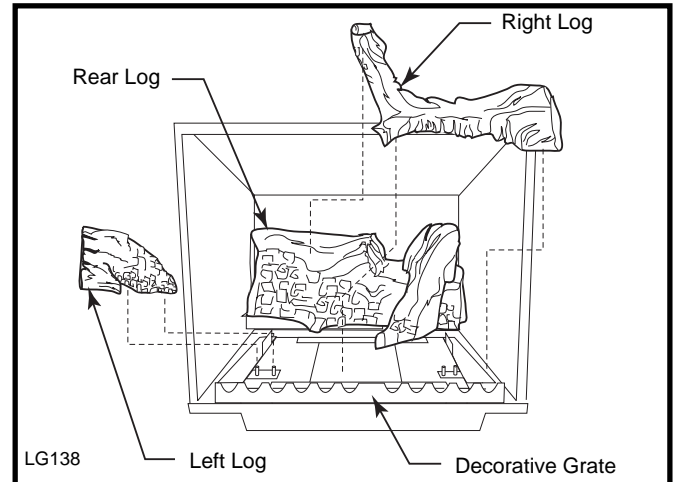

Fig. 43 Install back, right and left logs.
1. Install the rear log by centering it side to side on the sheet metal shelf at the back of the firebox. (Fig. 43) The log will touch both sides and back wall of the firebox.
2. Install the right log by placing right side of log on burner so it is just touching firebox side. Lay log flat on burner almost touching the decorative grate. Then tilt log back so that it leans against rear log. (Fig. 43) Only the topmost part of the left side of log will touch the rear log. The right log sits freely on the burner and does not use locator pins to stay in place.
3. Place left log on burner, making sure to engage locator pins in holes in bottom of the log. (Fig. 43) This log does not touch any other log.